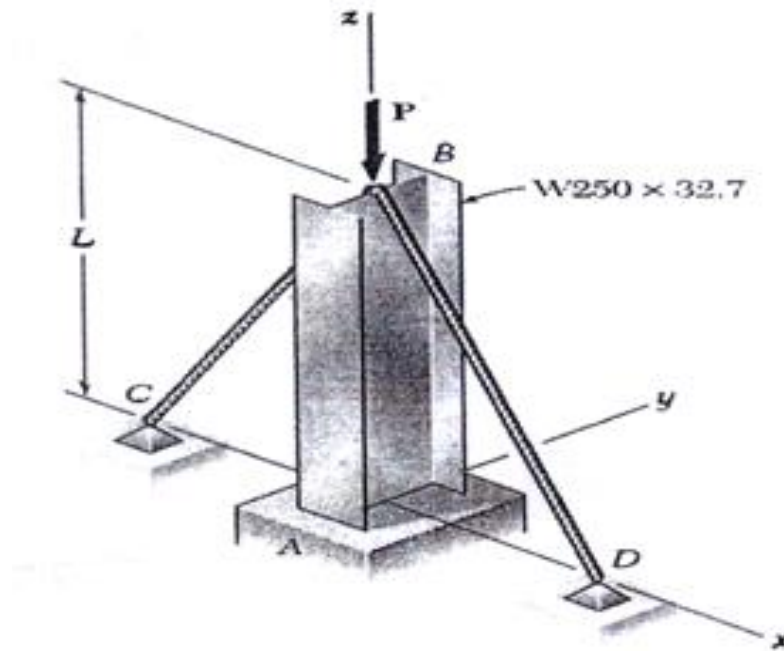

Figure 9
- (b) Column AB carries a centric load  $P$  of magnitude 72 kN (Figure 9). Cables BC and BD are pinned at point C and D, respectively, and prevent motion of point B in  $xz$ -plane. Point B is free to move in  $yz$ -plane, and point A is fixed. Using Euler's formula and a factor of safety of 2.3, and neglecting the tension in the cables, determine the maximum allowable length  $L$  of column AB. Use  $E = 200 \text{ GPa}$ . Section properties of W250 x 32.7 are given as follows: